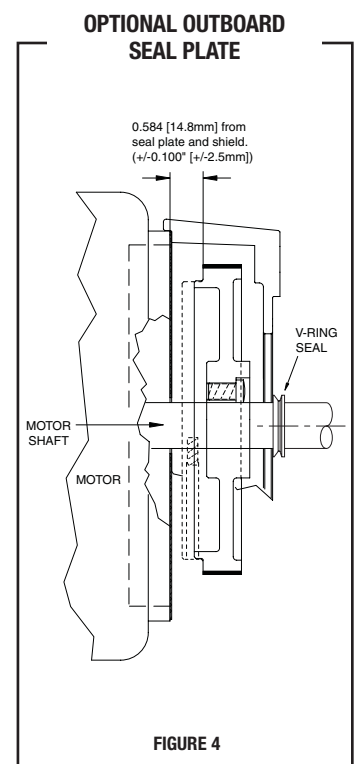

FIGURE 4
1. The through-shaft must project at least 1.2" [30.48mm] from the accessory mounting face. If it is greater than 2" [50.80mm] long, use the outboard through-shaft cover, detailed in Figure 4.
For applications requiring shafts to pass completely through the AV850, Avtron offers an outboard through-shaft seal plate kit with V-ring seal. See Table 4 for part numbers and Figure 4.
4. Install new through-shaft cover using the (4) #10-24 screws and washers from step 2.
6. Slide the V-ring seal onto the shaft, and ensure that it is compressed against the cover. See installation Figure 4.